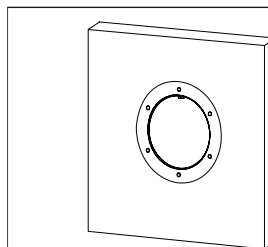

Figure 4
- Embed the Shell into the concrete wall, making sure that it is parallel to the side of the pool (Figure 4).